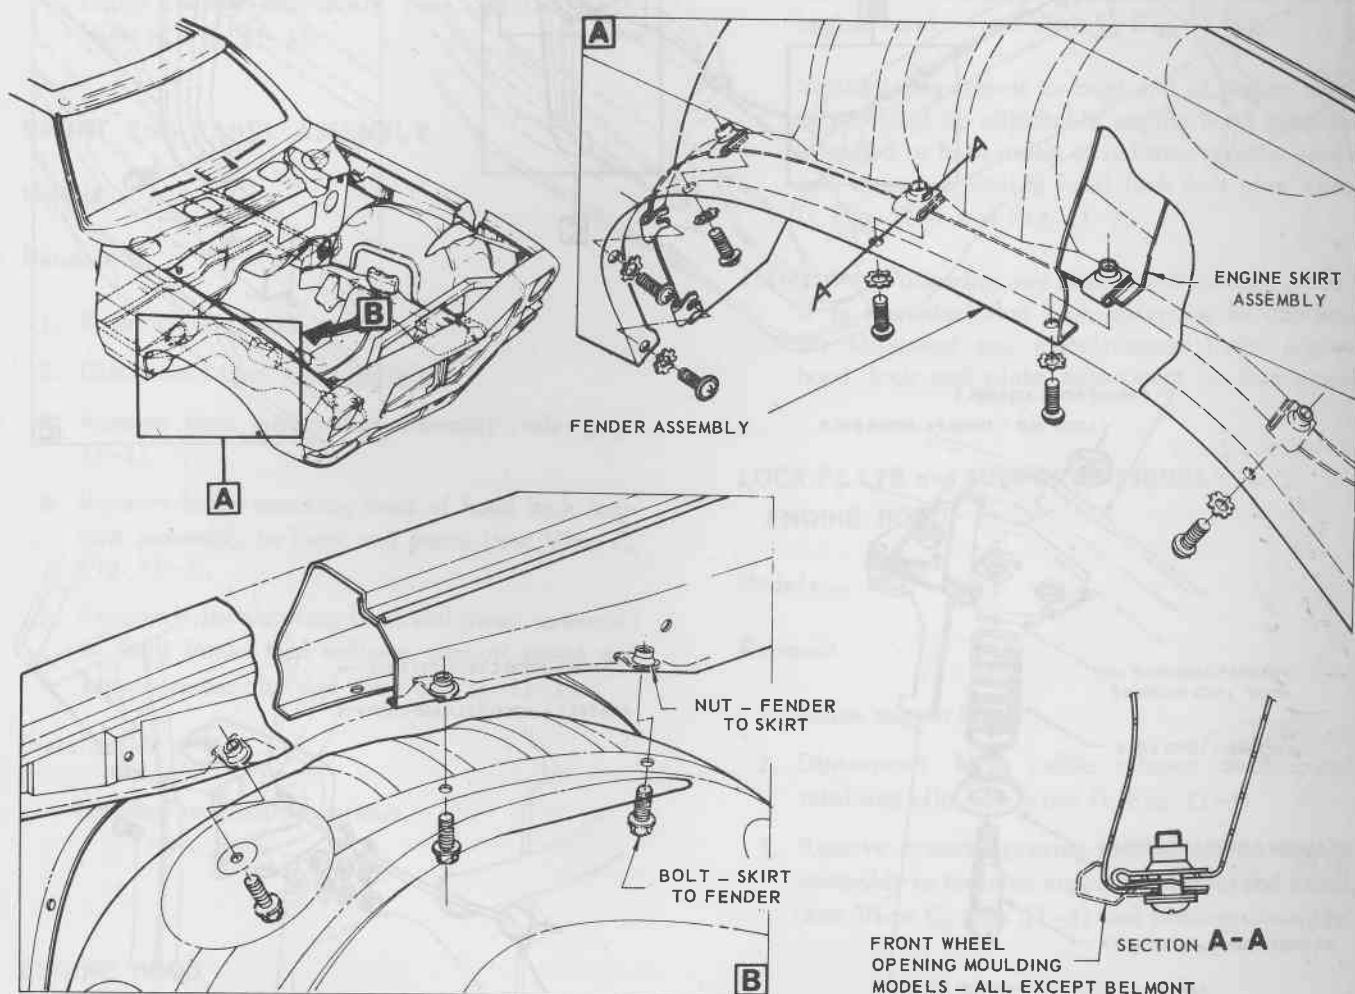

Fig. 11-2
7. From inside front wheelhouse, remove bolts securing fender to fender skirt (see View A, Fig. 11-2) and remove fender.